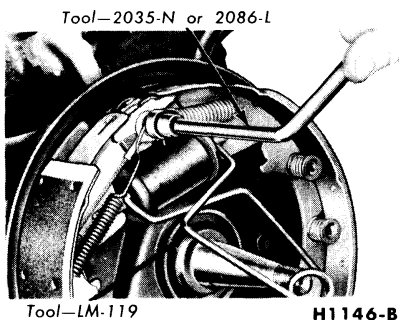

FIG. 15—Retracting Spring Removal
1. With the wheel and drum removed install a clamp over the ends of the brake cylinder as shown in Fig. 15.
2. Remove the secondary shoe to anchor spring with the tool shown in Fig. 15. With the same tool remove the primary shoe to anchor spring and unhook the cable eye from the anchor pin.